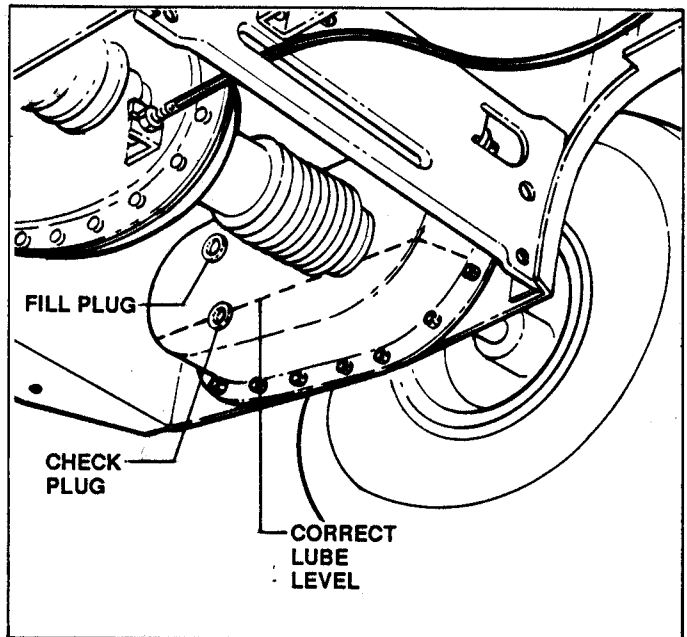

FIGURE 16
- CHECK GREASE LEVEL by removing CHECK PLUG on inside of unit shown in Figure 16 to check level of oil. Add **SNAPPER "0"** grease as needed thru upper fill hole to bring the level up to the lower edge of the CHECK PLUG hole. Reinstall **NEW** plugs after servicing.
- CHAIN CASE: Remove plug and check. If dry, add one ounce of **SNAPPER "0"** grease- do not overfill. Total capacity must not exceed 2 ounces. See Figure 16.